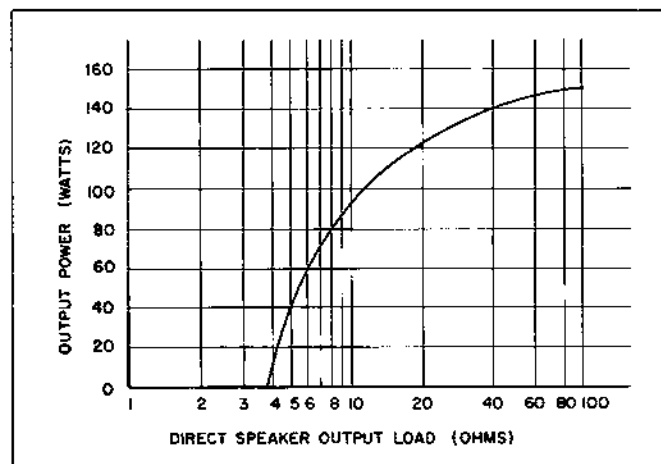

FIGURE 7. 70-VOLT OUTPUT POWER VS. DIRECT OUTPUT LOAD IMPEDANCE FROM 4 OHMS TO 100 OHMS (SR105A ONLY)
It is possible to utilize both the direct-coupled speaker output and the 70-volt output of the SR105A Amplifier simultaneously, if desired. In this case, reference should be made to Figure 7, Page 7 to determine the power available to the 70-volt output as a function of the load on the direct speaker output. As an example, assume an 8-ohm speaker load is to be connected to the direct-coupled speaker output, and the 70-volt output is also to be used. Following the 8-ohm vertical line on the graph (Figure 7, Page 7) to the point where it intersects the curve, note that the horizontal line also passing through this point is 80 watts. This is the power available on the 70-volt output with a simultaneous 8-ohm direct output load.
In the SR105A Amplifier, a 100% indication represents a signal level greater than 70.7 volts rms across the 70V OUTPUT Terminals (11). The OUTPUT VOLTAGE Meter (1) may be recalibrated for a 100% indication with 70.7V output. Maximum 70-volt amplifier power output is obtained with a 150-watt load (33 ohms) across the 70V OUTPUT Terminals. Similarly, maximum power output may be obtained with a combination of direct and 70-volt loads (see Figure 7, Page 7).